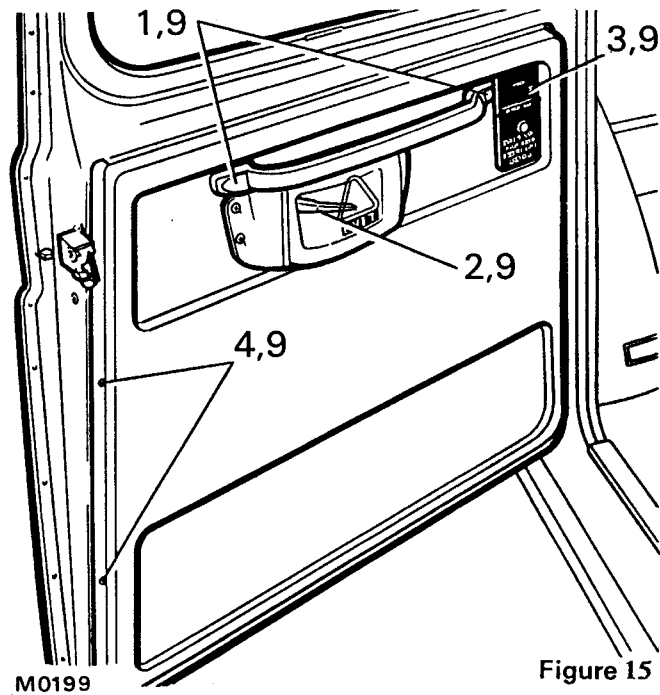

Figure 15
- 1 Carefully prise out end cappings, remove retaining screws and detach grab handle, see figure 15.